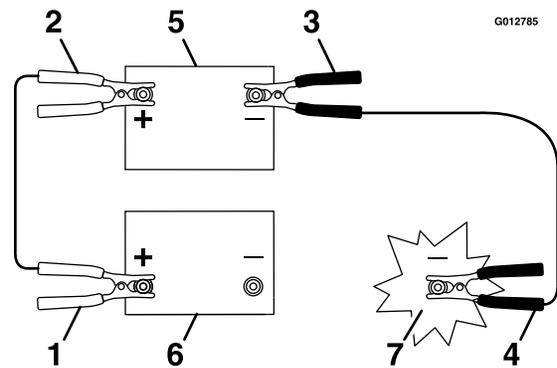

Figure 63
5. Connect the positive (+) cable to the positive (+) terminal of the discharged battery that is wired to the starter or solenoid as shown in Figure 63.